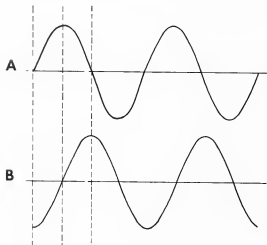

Figure 2-11
- In Figure 2-11, the sine wave in A (leads, lags) the sine wave in B by (90, 180) degrees.
11. In Figure 2-11, the sine wave in A **leads** the sine wave in B by **90 degrees**.